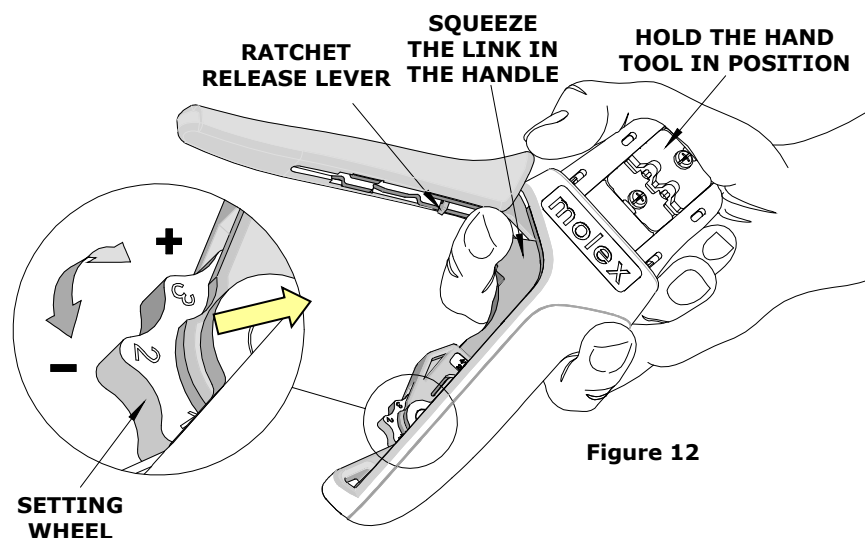

Figure 12
### How to Adjust Tool Preload (See Figure 12)
1. Hold the hand tool in the palm of your hand as shown in Figure 12. Using your index finger, squeeze the link toward the top of the hand tool frame. This will release the preload adjustment wheel.